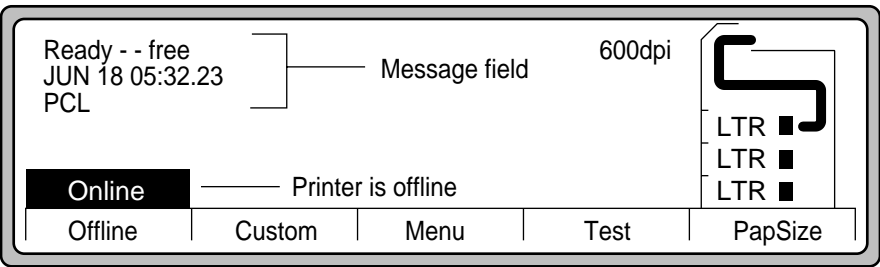
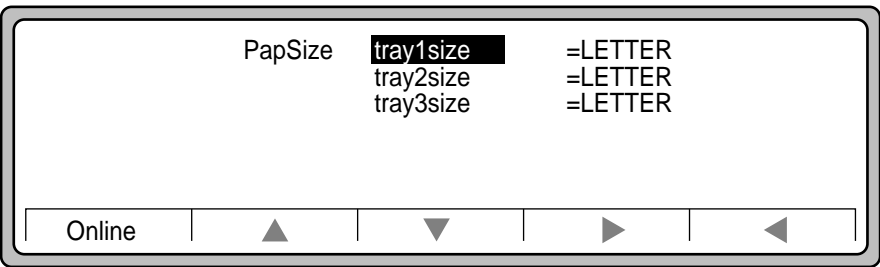

Figure 3-13 Main Screen
Figure 3-14 Paper tray selections
1. To specify a tray as the custom tray, press PapSize on the Main Screen (Figure 3-13) to display the screen shown in Figure 3-14. This display identifies the paper size in each tray.